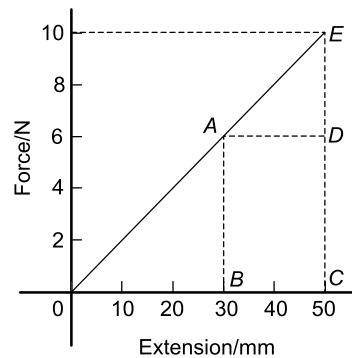

Figure 16.6
Figure 16.6 shows the force/extension graph for the spring.
- (a) Work done in extending the spring from zero to 30 mm is given by area ABO of Figure 16.6,
- (b) Work done in extending the spring from 30 mm to 50 mm is given by area $ABCE$ of Figure 16.6, i.e.